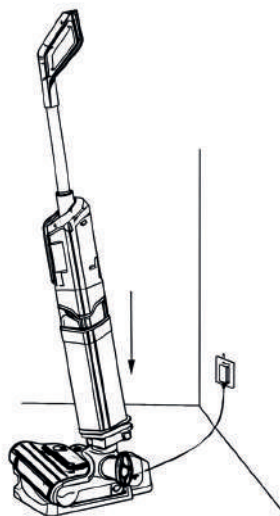

Fig. 15
3. Position the main unit vertically and carefully align and insert it into the charging base to complete the assembly and charging setup (see Fig. 15).